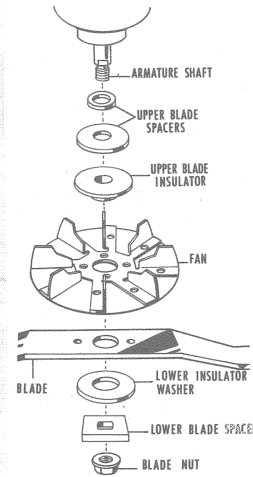

FIGURE 16
4. Remove lower blade spacer, lower insulator washer and blade (Figure 16).